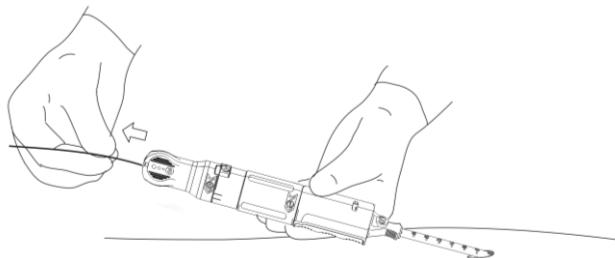

Figure 14. Removal of guidewire.
- Locate indicator marked '3' and remove the guidewire completely from the patient and PerQseal® closure device. Guidewire removal may be done by an assistant. Figure 14.